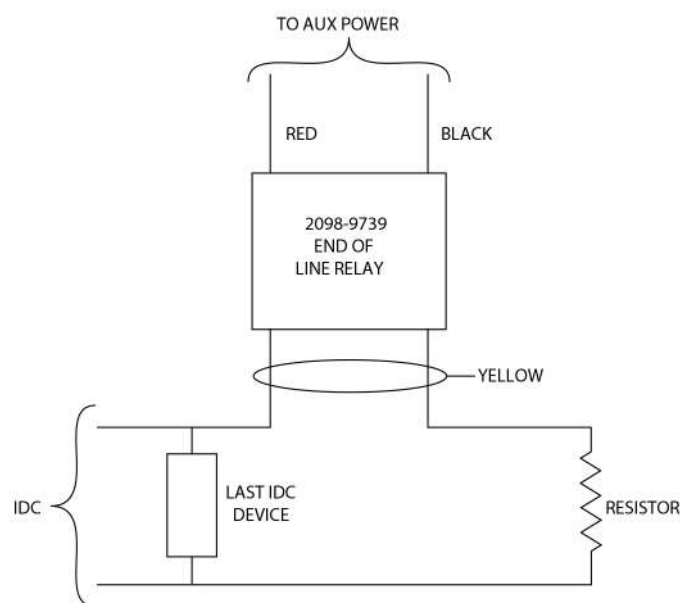

Figure 28: The EOL relay
- Auxiliary power only: Supervision must be provided if the auxiliary power circuit is to be wired as a power-limited circuit. In order to connect a circuit using power-limited wiring, the devices being powered must all be addressable, or a UL Listed EOL relay must be used to supervise the circuit. Refer to Figure 28 for wiring directions for the EOL relay.